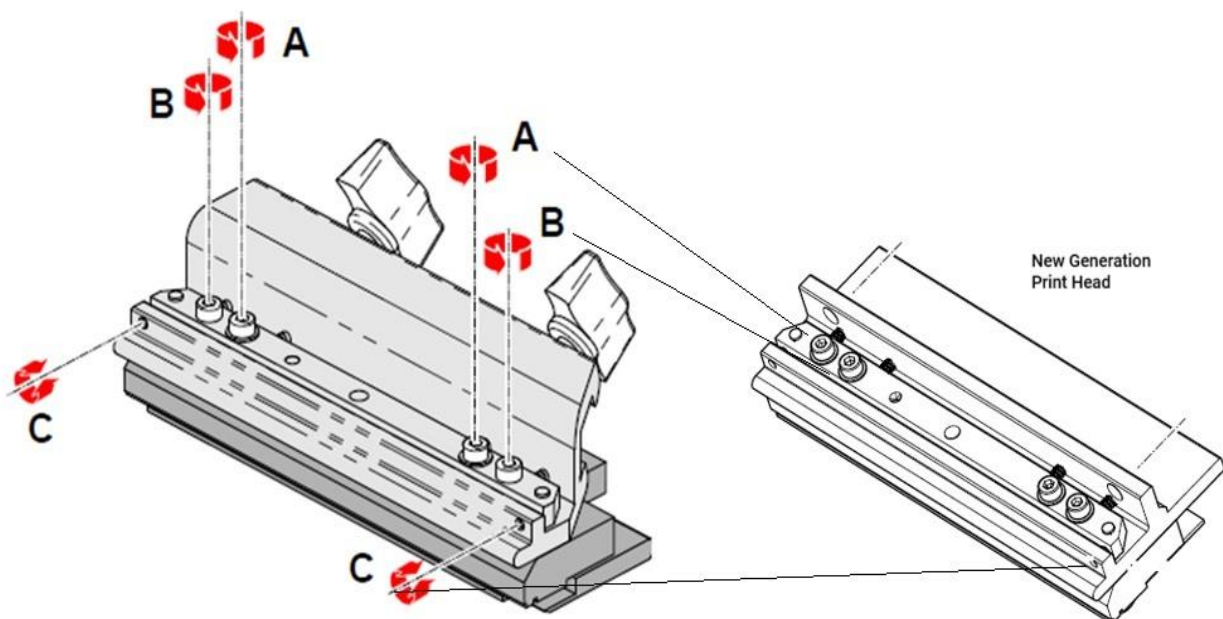

Fig.1 Printhead adjustment screws.
- To adjust the printhead, loosen the 4 screws marked A and B in Fig.1 below with a 2.5mm hex key. Do not screw out all the way.
- Once loosened, the printhead can be adjusted on the bracket by tightening or loosening the screws marked C (Fig.1) by ¼ of a turn at a time. Lock screws A and B after this adjustment.